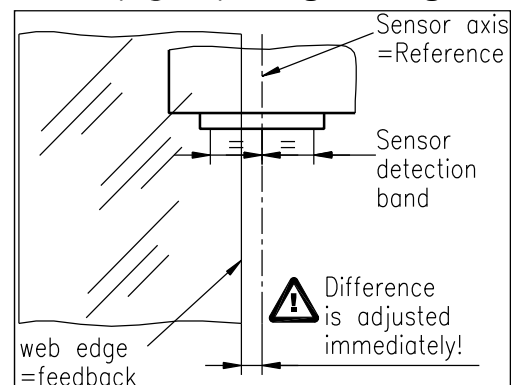

Fig. 12: Position at automatic start K 100005e
- Start automatic mode with  key or digital input. Reference position is taken from the middle of the sensor detection band (Fig. 12). Using center guide, reference position is in the middle between the 2 sensor axis. The controller starts to guide the web to reference position and to hold this guide point.